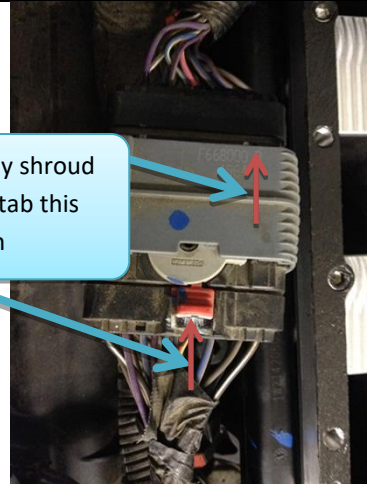

Figure 41: Wire connector with red lock engaged.
27.1. Slide grey shroud on and engage red lock clip into place (Figure 41)